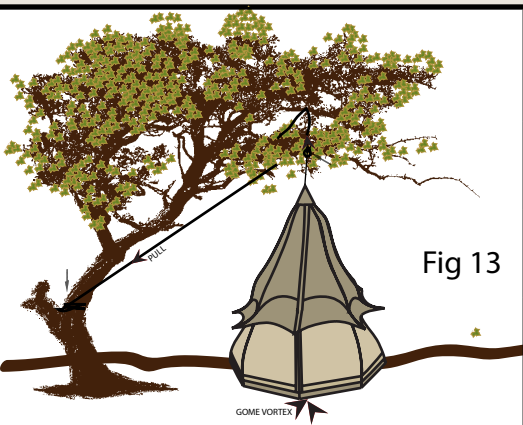

Fig 13
- Raise the gome by pulling the hanging rope until it's moderately stretched. (Fig 13)